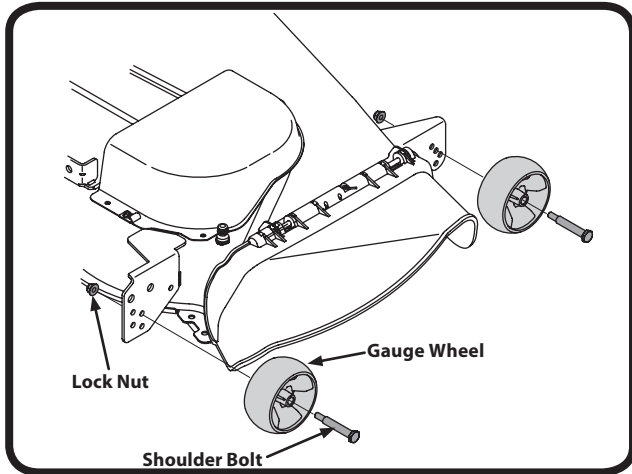

Figure 7.27
4. Reposition the gauge wheel to align with the one of the index holes that places the wheel 1/4" to 1/2" above the ground. See Figure 7.27.